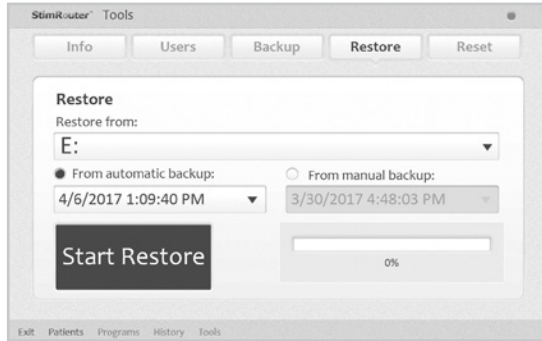

Figure 11-6: Restoring the Clinician's Programmer database
3. From the “Restore from” drop-down list, select SD Card drive. See Figure 11-6.